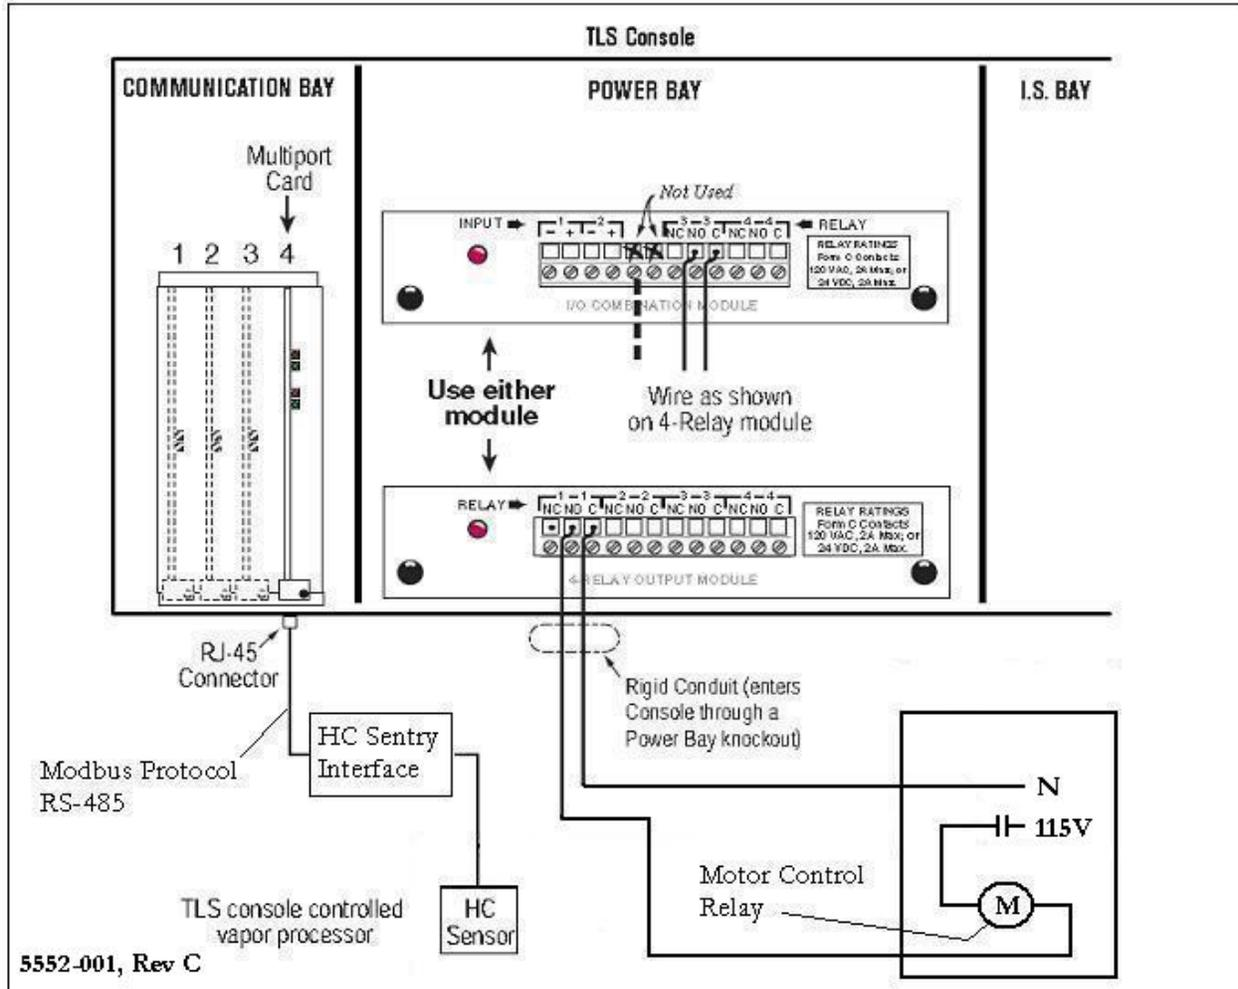

Figure 26: VR TLS Multi-Port Card Connection to HC Sentry Module
- ▶ **See Figure 26: Section 14 / Page 69**